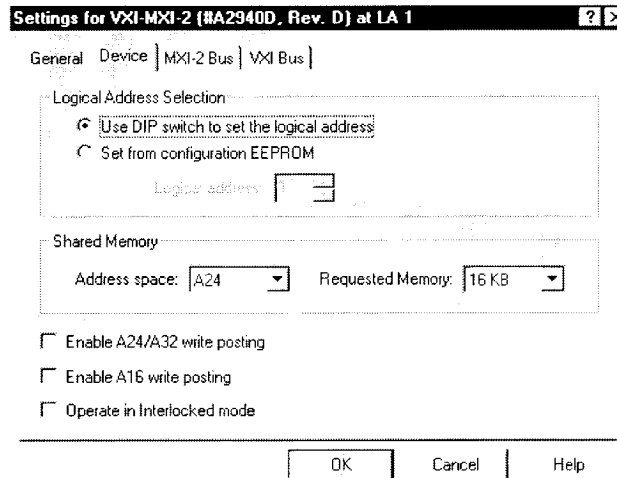

Figure 2-9 Device Tab
7. Click the **Device** tab. Refer to Figure 2-9.